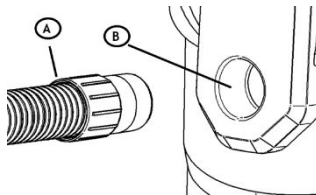

Figure 3
7. See Figure 3. Insert hose adapter (A) to the intake port (B) on the tank. To remove the hose twist the hose adapter. Attach wand to the hose and the floor brush to the wand.